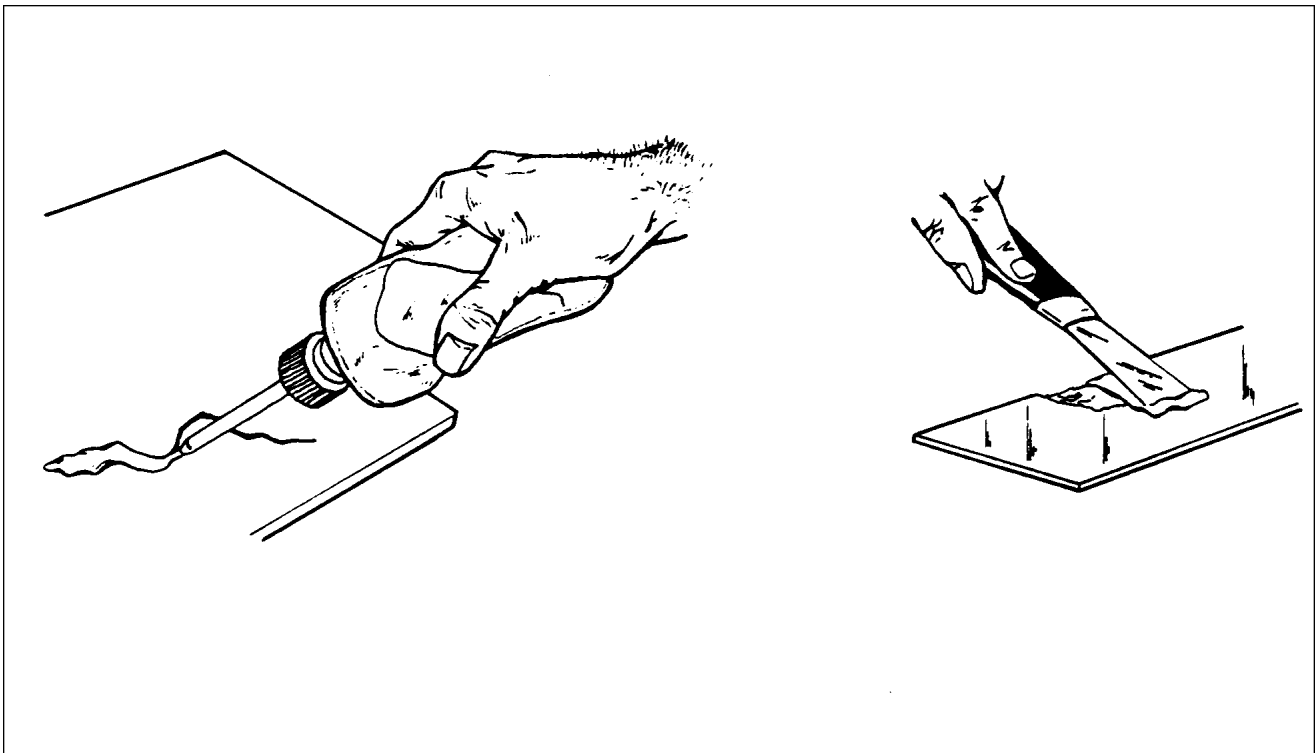

Figure 4-15. Deep Scratches, Shallow Nicks and Small Holes
c. Deep Scratches, Shallow Nicks, and Small Holes: (Less than 1 inch in diameter.) (Refer to Figure 4-15.)